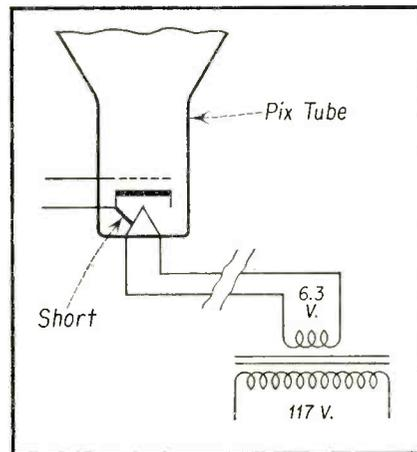

Fig. 2—Use of separate filament transformer enables continued use of shorted picture tube (no DC return).
If the picture tube provides an otherwise normal picture it probably would be desirable to obtain a separate filament transformer, 117 to 6.3 volts, so as to obtain filament voltage for the picture tube only. This will permit the use of the picture tube even though the short still exists between cathode and filament. The internal short in the tube cannot prevent control of the cathode voltage by the background control as with the separate filament transformer there is no return dc path from the filament of the picture. See Fig. 2.
Fig. 2—When a signal is applied to the input terminals of a DC scope, both the AC voltage and the DC voltage in the signal appear on the scope screen. The DC voltage is indicated by the distance which the pattern rises above the DC zero-volt level. The DC zero-volt level is indicated by the resting position of the scope trace. DC information on the scope reveals much valuable servicing data.
- A. More information is provided by the *dc* scope, whether or not a demodulator probe is used. Fig. 2 was obtained by application of a crystal demodulator probe and *dc* scope in the signal circuits of an intercarrier receiver.
Fig. 7—This is the same type of display as seen in Fig. 2, but with a high noise level present. It should be recognized that the waveshapes and peak-to-peak signal-voltage data provided in receiver service manuals may be useless in fringe areas. In such case, the technician must rely almost entirely upon his generators for tests of signal circuits.